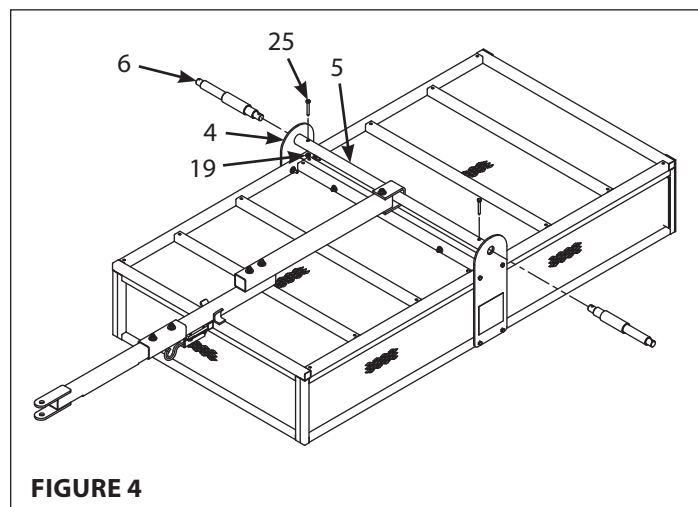

FIGURE 4
7. Attach the tongue assembly to the frame assembly by inserting the short end of the two axle spindles (6) through the axle mounting plates (4) and threading into the axle tube (5). Thread axle spindles until snug and then loosen until holes in the axle tube and spindles are aligned. Secure the two axle spindles to the axle tube using two M6x45mm bolts (25) and M6 locknuts (19). **SEE FIGURE 4**